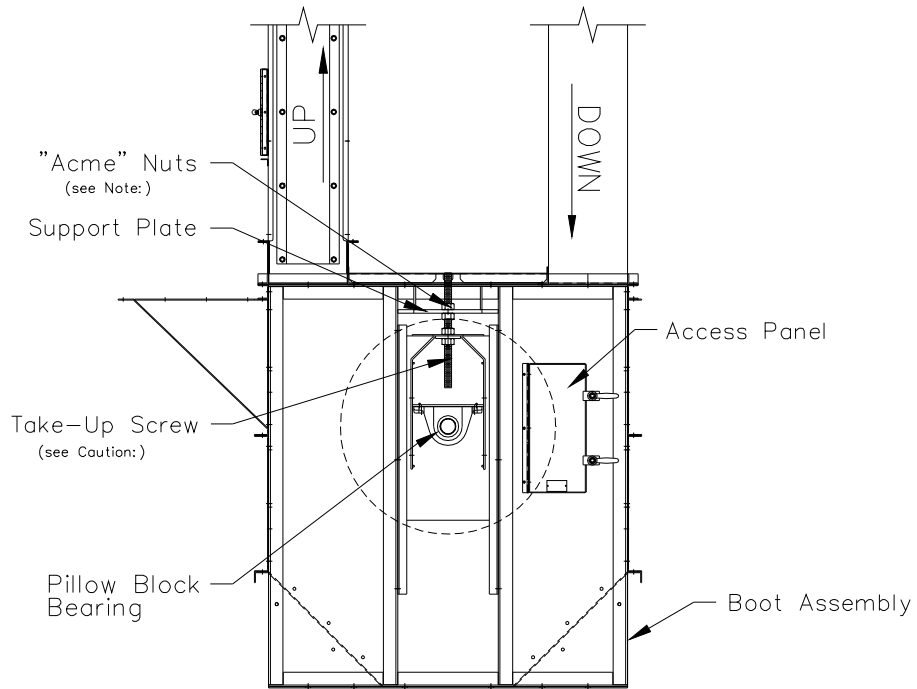
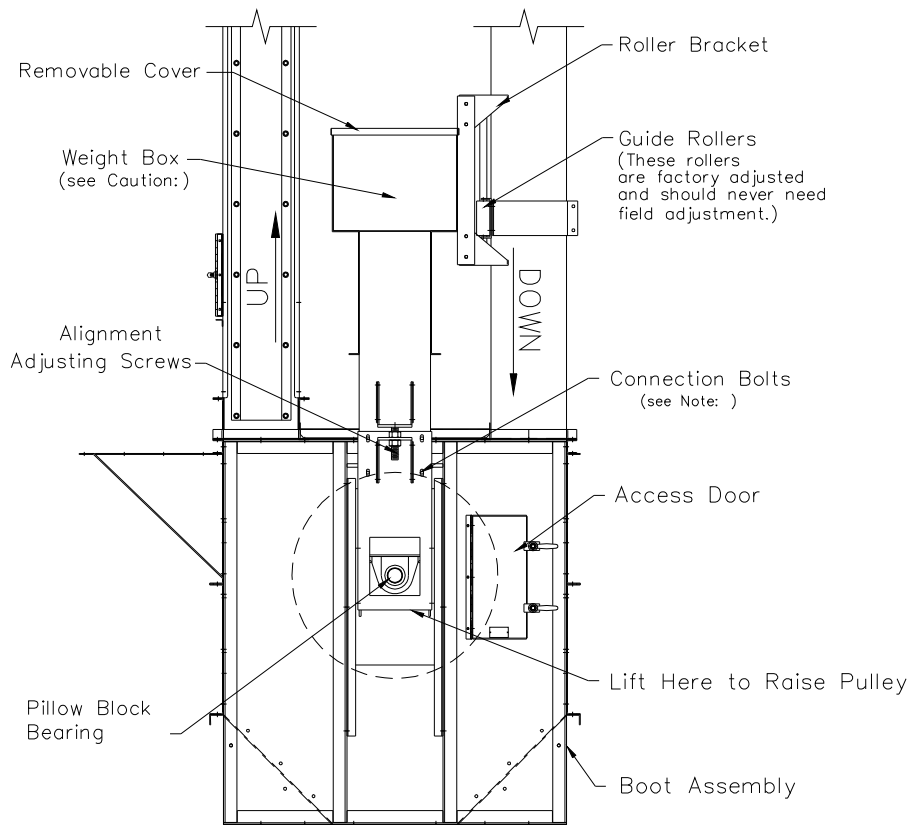

Figure 2-11, Screw Takeup Section
Figure 2-12, Posi-Guide Gravity Takeup
- A. If the elevator boot includes a manual screw takeup as shown in **Figure 2-11**, adjust the takeup screws to raise the pulley to its highest level
- B. If the elevator includes a Posi-Guide gravity takeup as shown in **Figure 2-12**, position a jack under the indicated surface of the takeup side post to lift the takeup, including the pulley.
3. Mechanical Splice, **Figure 2-10, View C**. This is a superior splice. It makes for the smoothest running belt. However, it is also the most difficult splice to make properly. Vulcanized and cemented splices do not often find application in elevators. The splices are difficult to apply in the field. Also, the belt may have to be respliced after a short period of operation to compensate for initial stretch. Regardless of the method used to splice the belt, a set of spreader bars and a Cable Hoist as shown in **Figure 2-11, View D** will facilitate splicing.
1. If the elevator has a screw takeup, **Figure 2-11**, adjust the screws evenly downward at both ends of the takeup pulley shaft. Continue adjusting the screws until the belt can be seen to wrap snugly around the takeup pulley.
2. If the elevator has a Posi-Guide Takeup, **Figure 2-12**, then simply remove the temporary support so the weight of the takeup is exerted on the takeup pulley. If the loaded elevator, when tested, is found to need more belt tension, that can be accomplished by adding ballast to the weight box.
- B. Establish a firm, level, horizontal reference plane common to both ends of the takeup or boot pulley shaft. Measure from the reference plane to the pillow block mounting surface at each end of the pulley shaft. If the distances are not equal, adjust the takeup screws, **Figure 2-11**, or the alignment adjusting screws, **Figure 2-12** until the pulley shaft is level.
2. If the elevator has a Posi-Guide gravity takeup, adding ballast to the weight box will increase belt tension. The ballast should be spread evenly throughout the box for best results. Be sure to reinstall the weight box cover to prevent rainwater from accumulating in the weight box. (See **Figure 2-12**)